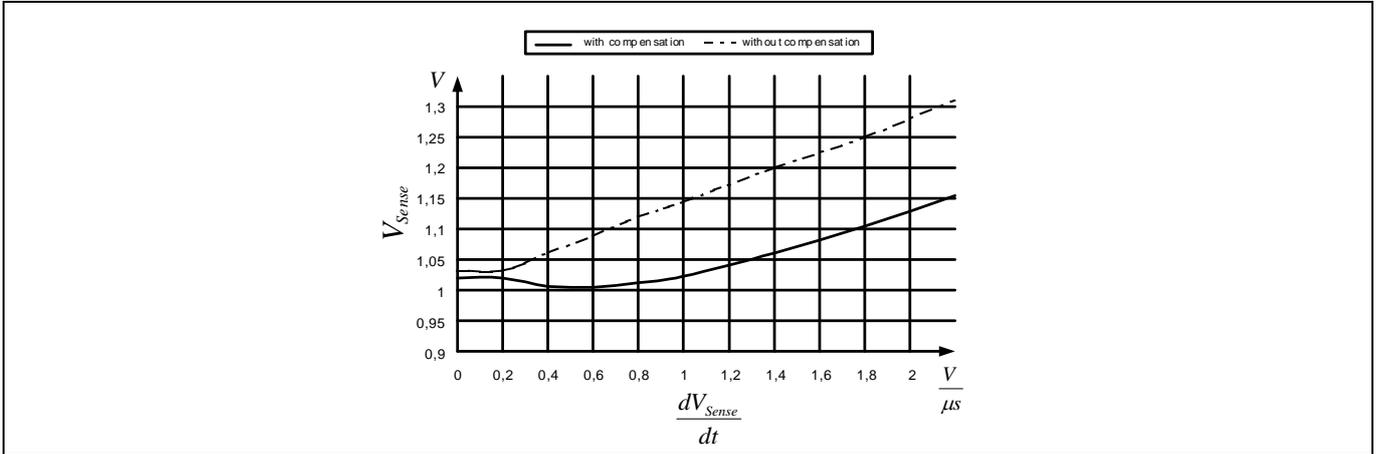

Figure 12 Overcurrent Shutdown
E.g. $I_{peak} = 0.5\text{ A}$ with $R_{sense} = 2\ \Omega$. Without Propagation Delay Compensation the current sense threshold is set to a static voltage level $V_{csth} = 1\text{ V}$. A current ramp of $di/dt = 0.4\text{ A}/\mu\text{s}$, that means $dV_{sense}/dt = 0.8\text{ V}/\mu\text{s}$, and a propagation delay time of i.e. $t_{Propagation\ Delay} = 180\text{ ns}$ leads then to an I_{peak} overshoot of 14.4%. By means of propagation delay compensation the overshoot is only about 2% (see Figure 12).